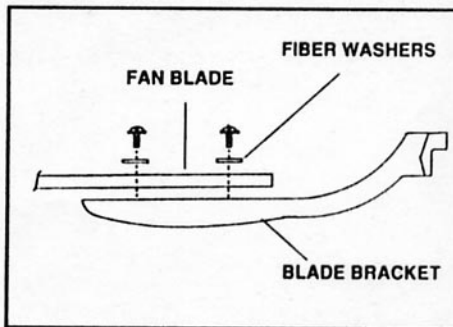

FIG. 14
Step 1. Attach the fan blade to the blade bracket using the screws provided. Tighten screws securely. Repeat for remaining blades. (Fig. 14)